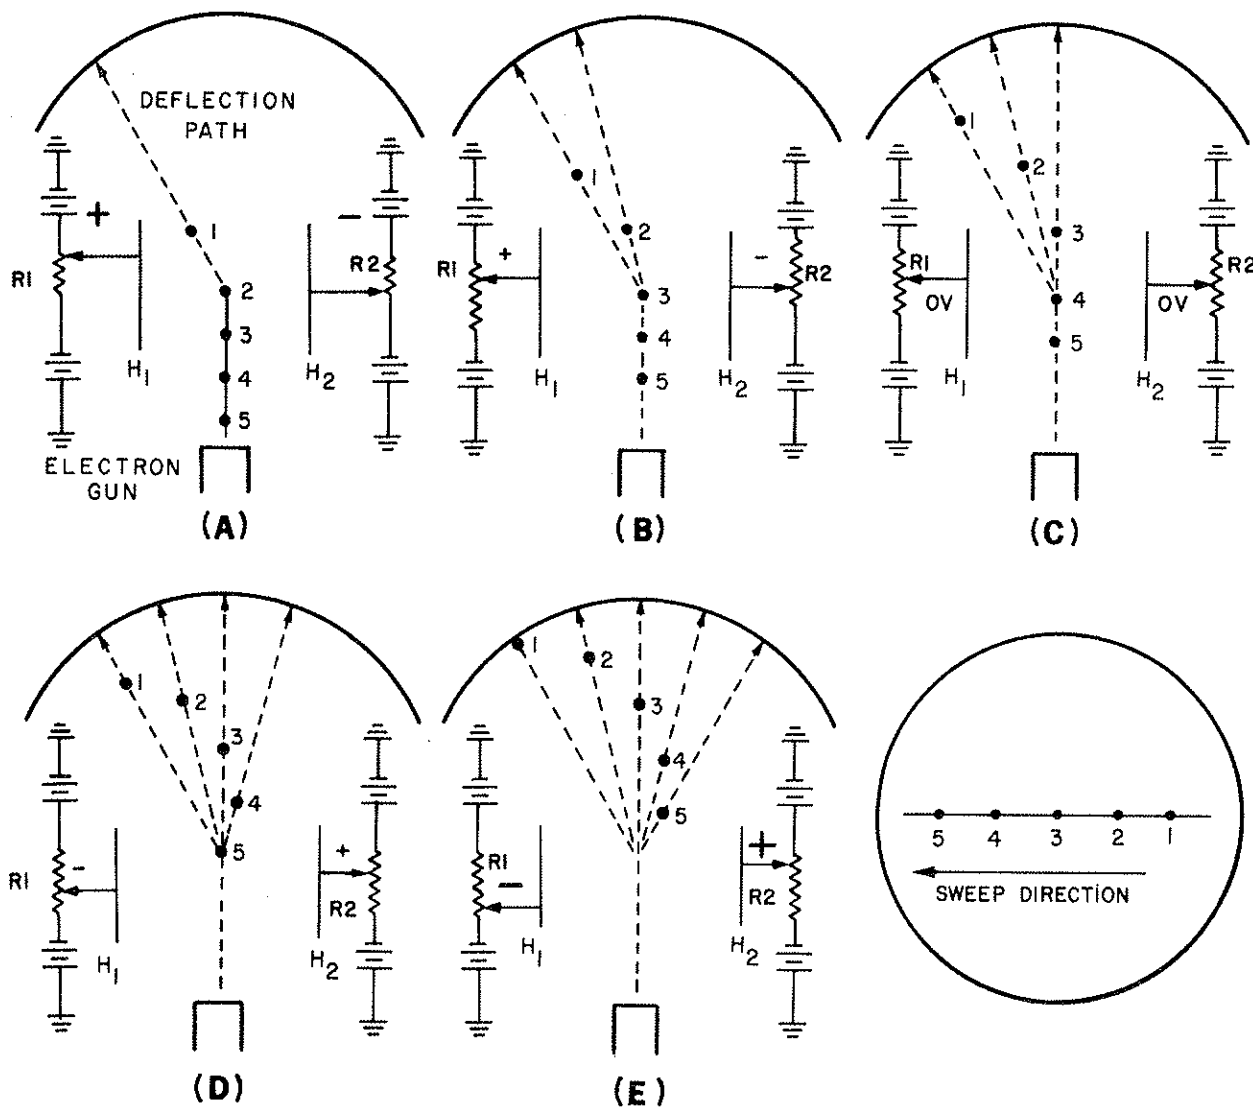

Figure 2-25.—Horizontal deflection.
A spot of light on the left-hand side of the CRT screen, however, is no more useful than a spot of light in the center of the screen. To be useful, this spot will have to be converted to a bright line, called a sweep, across the face of the CRT screen. The manner in which this is done will be explained using figure 2-25. In view (A), five electrons are emitted in sequence, 1 through 5, by the electron gun. The left deflection plate ( $H_1$ ) has a large positive potential on it while the right plate ( $H_2$ ) has a large negative potential on it. Thus, when electron 1 reaches the area of the deflection plates, it is attracted to the left plate while being repelled from the right plate. In view (B), electron 2 has reached the area of the deflection plates. However, before it arrives,  $R_1$  and  $R_2$  are adjusted to make the left plate less positive and the right plate less negative. Electron 2 will still be deflected to the left but not as much as electron 1. In view (C), electron 3 has reached the area of the deflection plates. Before it got there,  $R_1$  and  $R_2$  were adjusted to the mid-point. As a result, both plates have 0 volts applied to them. Electron 3 is not deflected and simply travels to the center of the CRT screen. In view (D), electron 4 has reached the area of the deflection plates. Notice that  $R_1$  and  $R_2$  have been adjusted to make the left plate negative and the right plate positive. As a result, electron 4 will be deflected to the right. Finally, in view (E), the left plate is at its maximum positive value. Electron 5 will be deflected to the extreme right. What you see when you are facing the CRT is a bright luminous line, as shown in view (F). While this description dealt with only five electrons, in reality the horizontal line across a CRT face is composed of millions of electrons. Instead of seeing five bright spots in a line, you will see only a solid bright line.